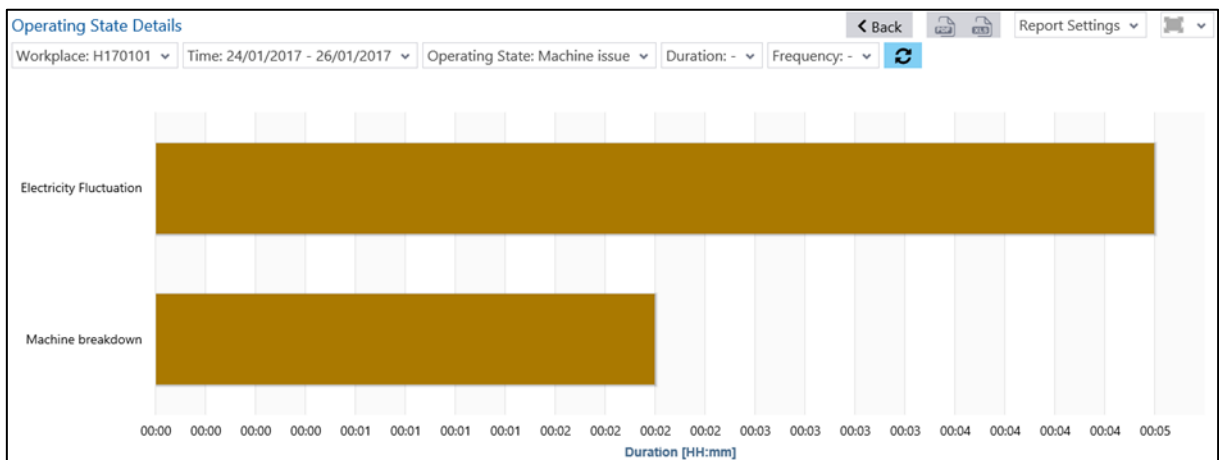

Fig. 65: Hit list of operating states (workplace) layer 2 as bar chart
- Hit list operating states (workplace) layer 2 as bar chart (fig. 65):